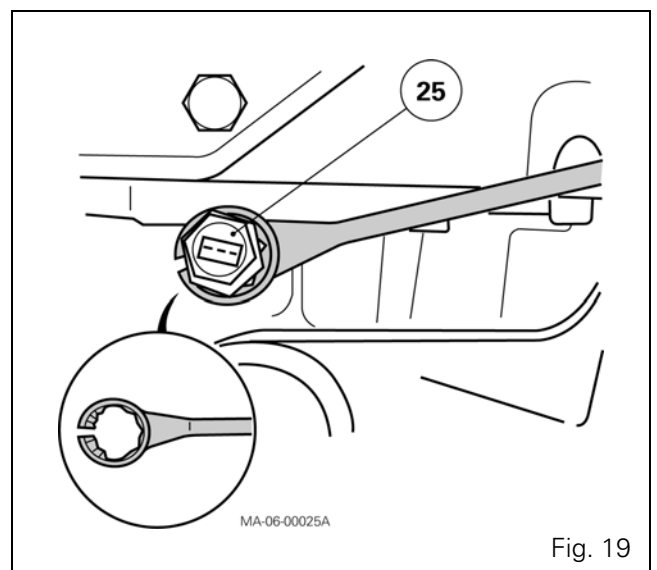

Fig. 19
- 70. Tighten the nut (25) to a torque of 25 Nm using a locally made wrench (Fig. 19).